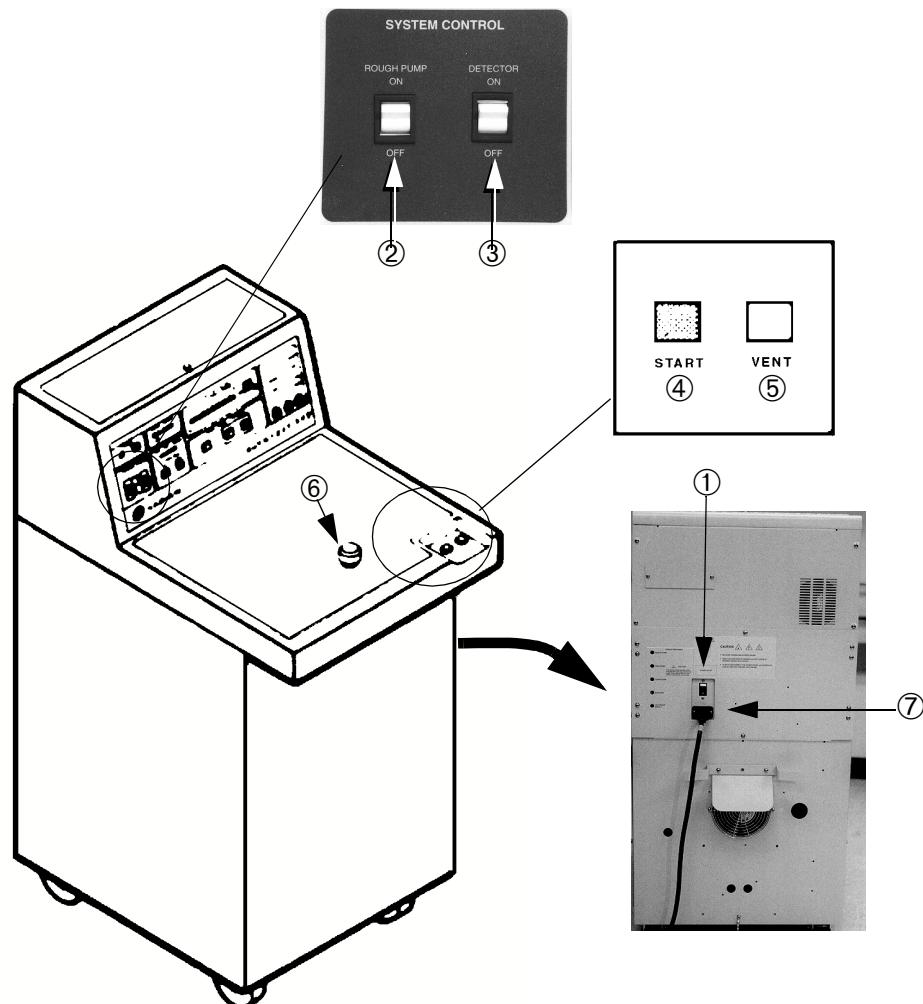

Figure 3-2 Start-Up Controls
Figure 3-2 shows the important 947/948/960 operation controls for start up and power. For circuit breaker descriptions, refer to Section 1.5, "Rear Panel Power Connection and Circuit Breakers" on page 1-10.
Refer to Figure 3-2 and follow the start up procedure, listed in the next Section, and in Section 3.4, “Calibration and Sensitivity Checks” procedure to put the 947/948/960 in a *Ready for Operation* state from the *All Systems off* condition.
2. Place the test port plug in the test port opening ⑥. Refer to Figure 3-2 on page 3-9.